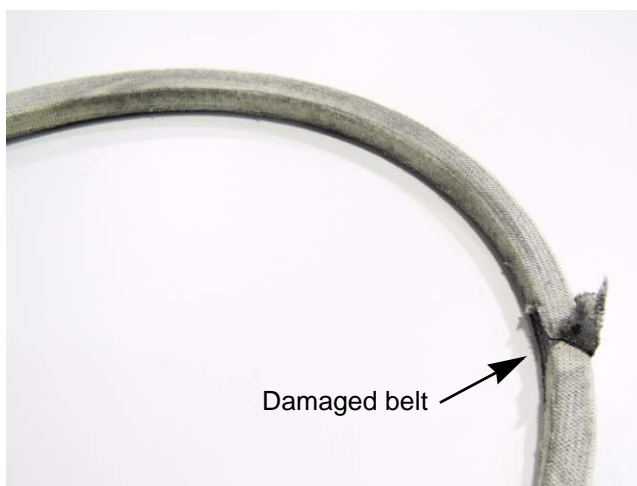

Figure 8.10
- Inspect the belt frequently for wear or damage. If the belt shows any signs of fraying or hot spots, replace the belt. See Figure 8.10.